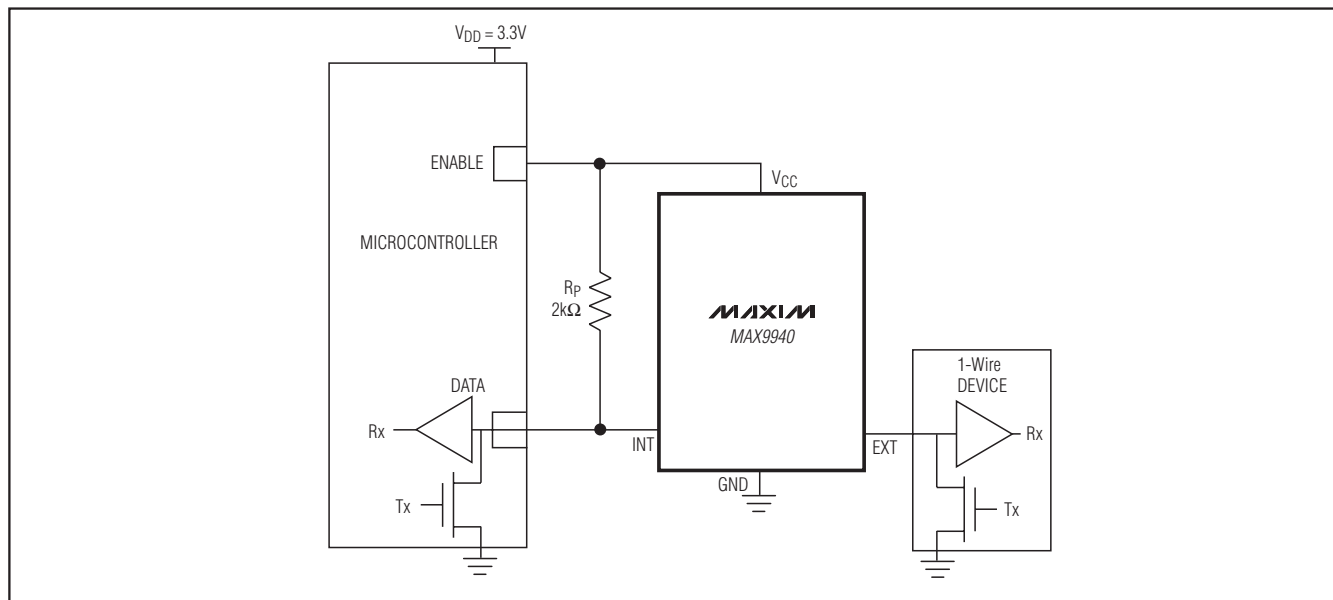

Figure 1. Recommended Scheme for Battery-Operated Devices that Need to Shut Down the MAX9940 and Prevent Power Draw During Short to GND Faults
Figures 1 and 2 show two methods of powering the MAX9940 from an ENABLE digital output port of the microcontroller. Figure 3 shows the conventional method of operating the MAX9940 with both pullup resistor for digital communication on DATA (RP) and V_{CC} being connected directly to V_{DD} of the microcontroller.
Figure 1 shows a recommended configuration for battery-operated devices that need to conserve power both on a continuous basis as well as during short to GND fault conditions. In this scheme, the ENABLE port of a microcontroller supplies the quiescent current for the MAX9940 as well as that required for digital communication (i.e., R_P pullup resistor). By forcing a 0 on the ENABLE digital output port of the microcontroller, the MAX9940 is in a zero-power shutdown mode, while also preventing any power drain to occur in the event of a short to GND fault on EXT. As stated earlier, EXT maintains the ability to withstand DC voltages up to 28V even when $V_{CC} = 0$.